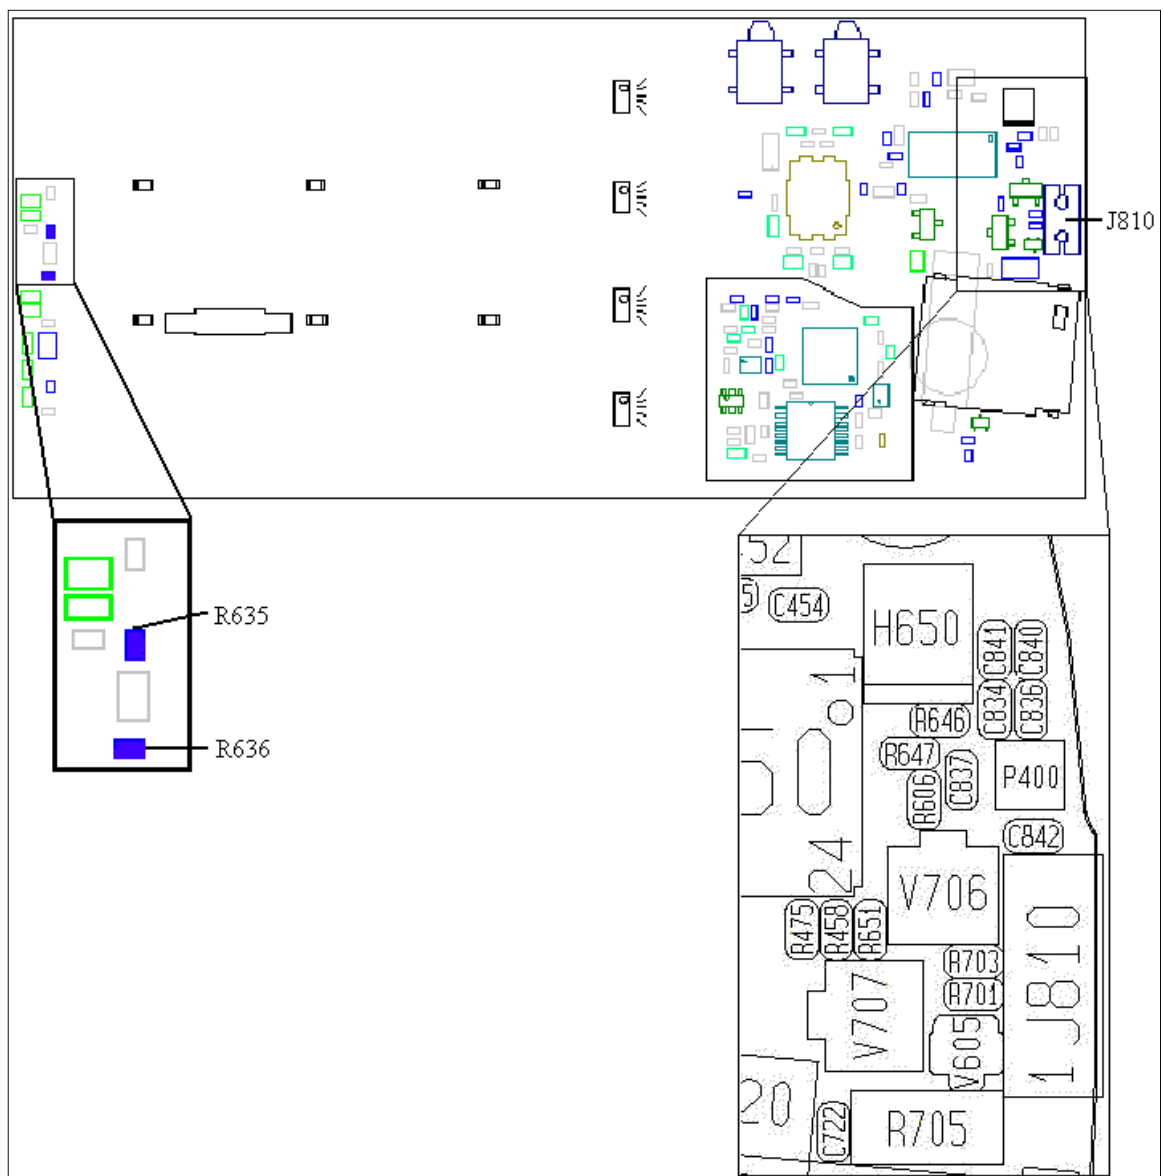

Fig. 4.1
If the fault remains, make sure the earphone connector (J810, fig. 4.1) is intact and correctly soldered.
Measure the resistance from one of the J810 pins to the other (~14 kohms, fig. 4.1).
- If the resistance is too low, replace C842 (class A, fig. 4.1).
- If any of the resistances are too high, replace C840 and C841 (class A, fig. 4.1)
Make especially sure there's no dirt or oxide between the components below the dome foil (components in fig. 4.1) and at the system connector pads.
Check the VDIG voltage at the marked sides of R635 and R636 (~3.2V, fig. 4.1).